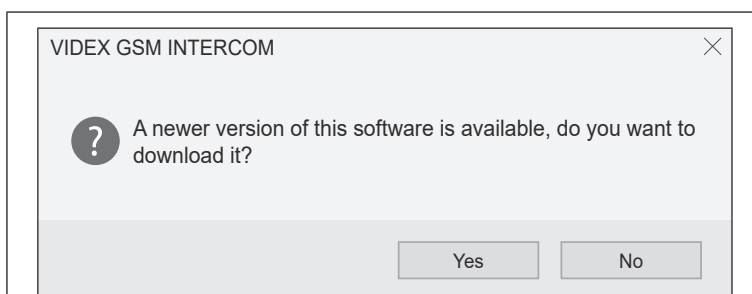

Fig. 2
2. As the software starts to load up the GSMSK software update window will appear, **Fig.2**, asking to update to a new version of the software.